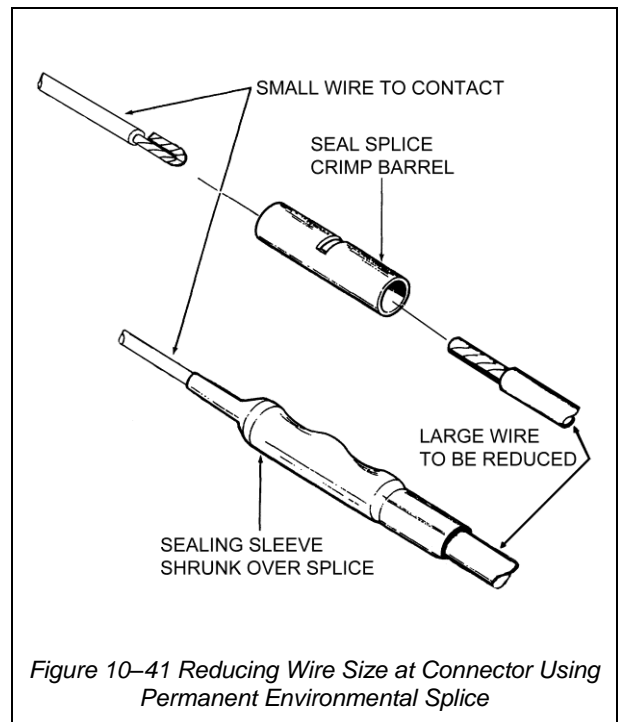
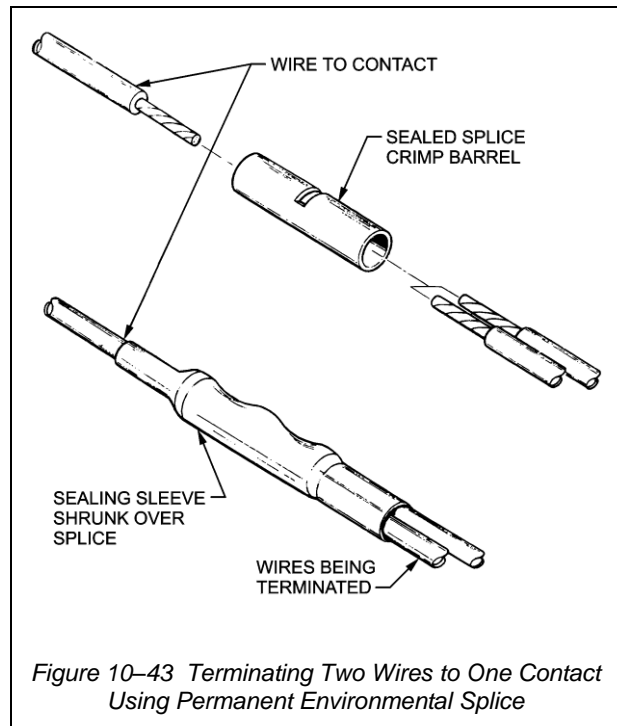

Figure 10-41 Reducing Wire Size at Connector Using Permanent Environmental Splice
Figure 10-43 Terminating Two Wires to One Contact Using Permanent Environmental Splice
- b. If both wires cannot fit into solder cup, use permanent splice to join both wires to a third wire that can fit into solder cup or crimp barrel. See Section 2, Chapter 6 for splicing procedure and Figure 10-41 and Figure 10-43 for illustration of this connection.
- b. Select a 15cm length of wire that will fit the wire barrel of the contact. Strip one end sufficiently long to be able to double the stripped portion back on itself as shown in Figure 10-43.